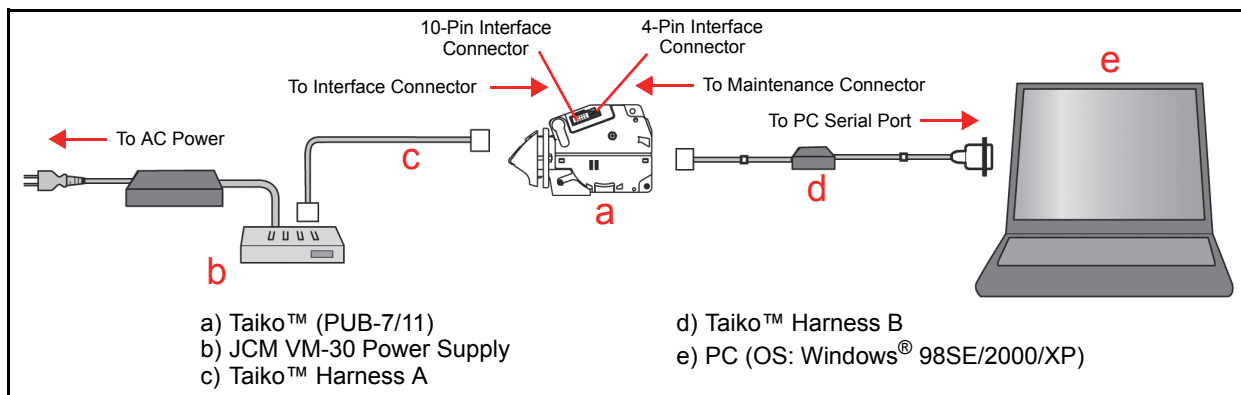

Figure 6-1 Required PUB-7/11 PC Download Workbench Tool
1. Refer to Figure 6-1 interconnection diagram to properly connect the power supply, various cables and wiring Harnesses to the PUB-7/11.
2. Connect the PC, Harness and Power Supply Unit cables to the Taiko™ Unit as shown in Figure 6-1 on page 6-1 of this Section. Ensure that the Taiko™ Unit is connected to the PC using a Taiko™ Harness "B" to ensure the proper connection is made to the Taiko™ Unit.